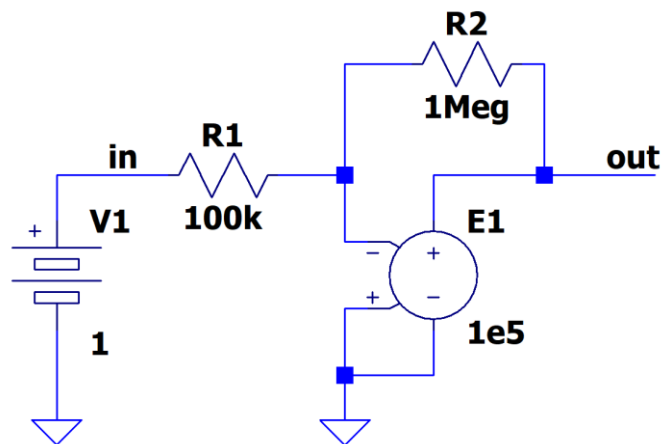

Fig. 3. Op amp inverting amplifier schematic
You will construct the circuit in Fig. 3 or one chosen by your instructor. The circuit is a simple model of an op amp inverting amplifier using standard SPICE elements.
- The circuit in Fig. 3 uses e2, so left click on that one and then click OK.